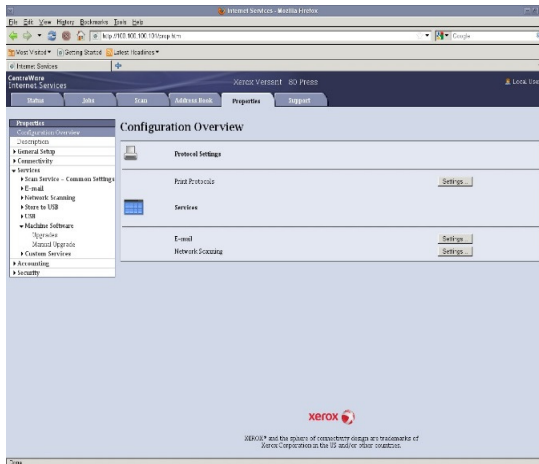

Figure 3
- Click on Services → Machine Software → Upgrades, place a check in the Enabled box and click “Apply”. See Figure 3 and 4.